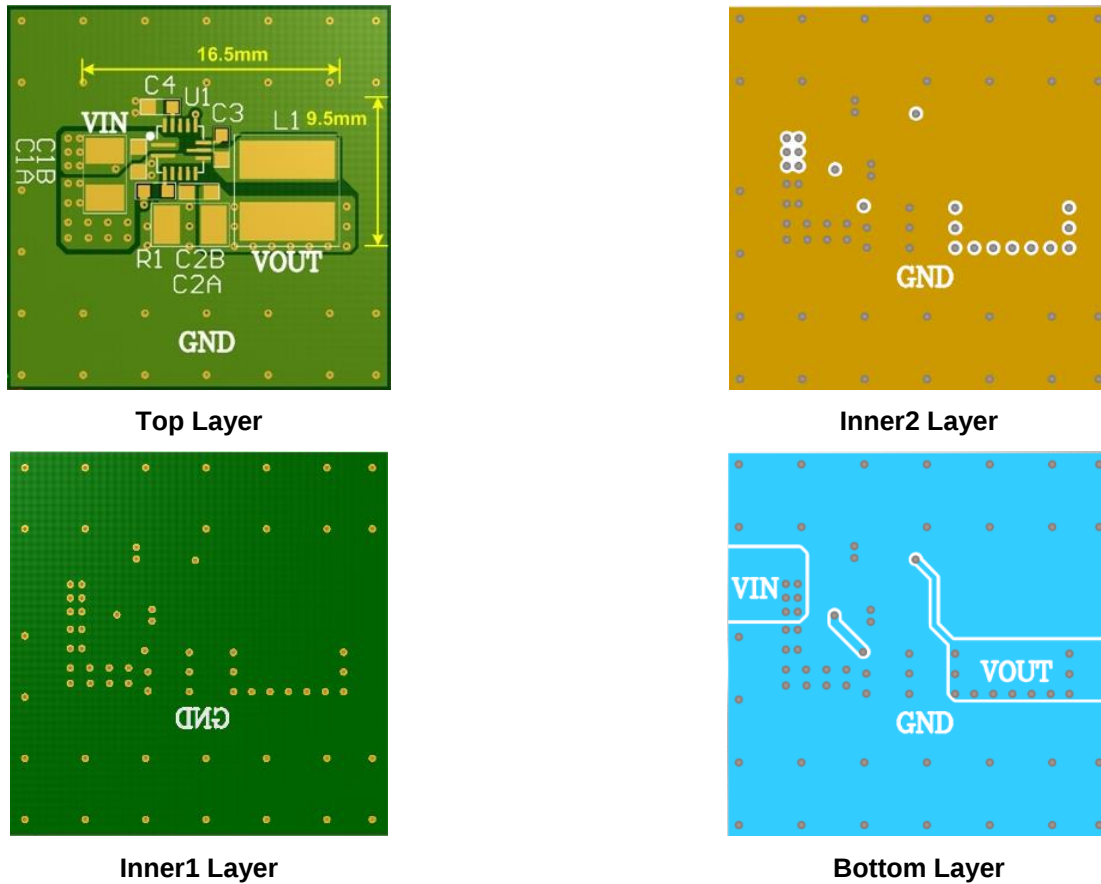

Figure 7: Recommended PCB Layout
PCB layout is critical for stable operation. For best results, refer to Figure 7 and follow the guidelines below: ^{(7) (8)}